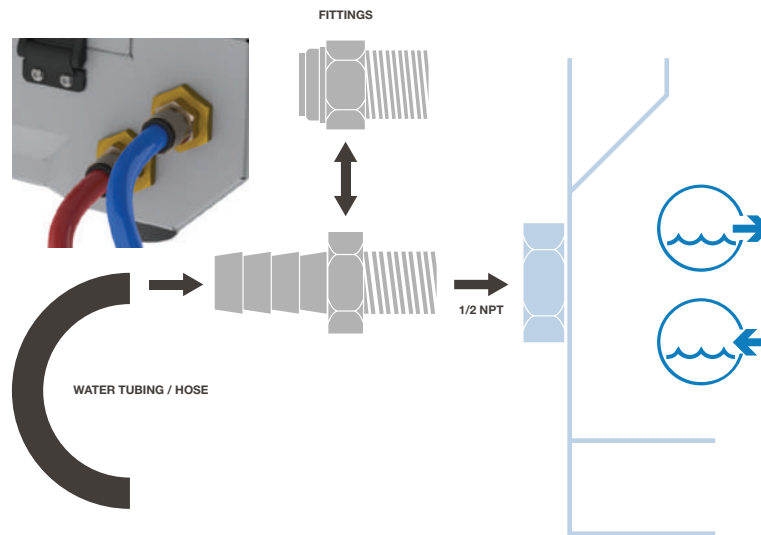

Figure 4-5: Coolant Fluid Connection Assembly
- Step 1.** Connect fittings as shown (Figure 4-5)